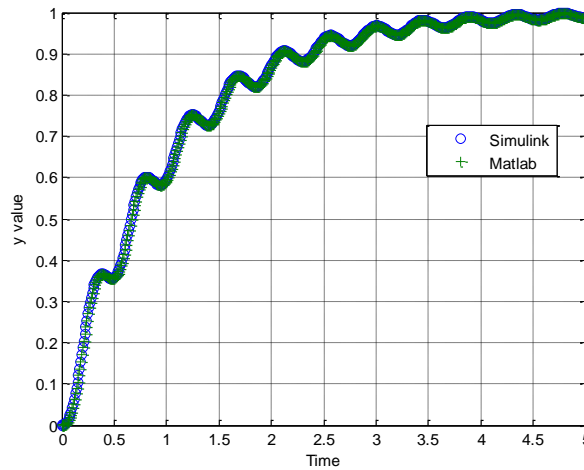

Figure 5. Final results for implementing the feedback control system with the integral controller.
f) Now edit **closedloop_driver** so you can plot the results from both the Matlab and Simulink results. If you run **closedloop_driver** you should get the results shown in Figure 5. If you do not get this result, you have done something wrong!